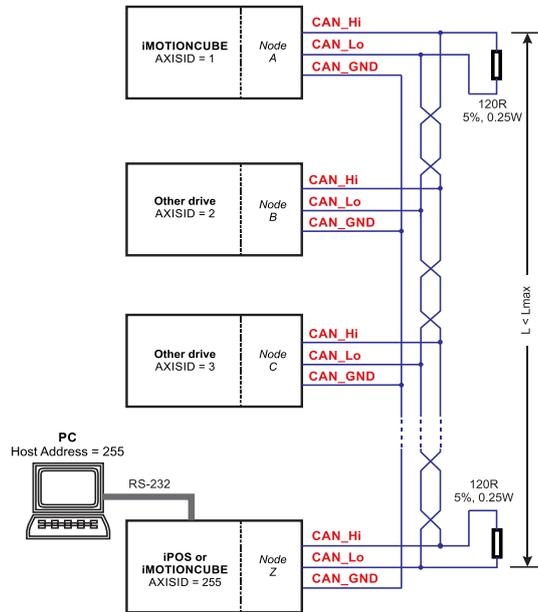

Figure 3.33. Multiple-Axis CAN network
1. The CAN network requires a 120-Ohm terminator. This is not included on the board. Figure 3.33 shows how to connect it on your network